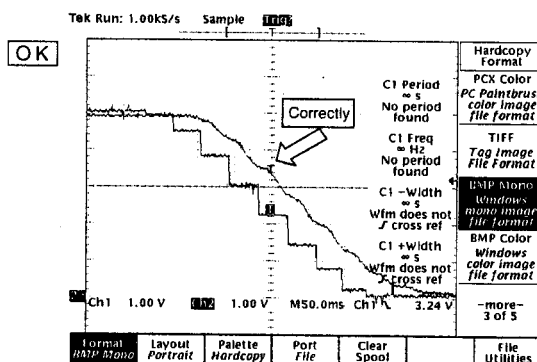
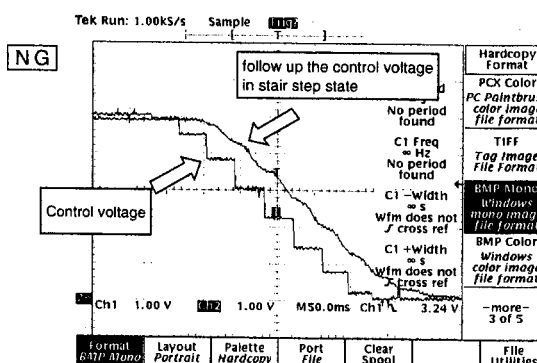

Fig.3
Fig.4
- (10) Touch the AUDIO button of the bottom menu bar on the display window, then select [ FADER GRUPING ] from the menu.
- (11) Select the GANG mode, set the grouping among adjusting fader and others. (Refer to [ AUD10 FADER GRUPING window] on page 46 of the Operating Instructions.)
- (12) Control the faders in manual except adjusting fader.
- (13) Observe the CN101, pin2 on the oscilloscope, confirms this waveform becomes correctly it shown in Fig.3. If waveform is incorrectly as shown in Fig.4, adjust RV102.